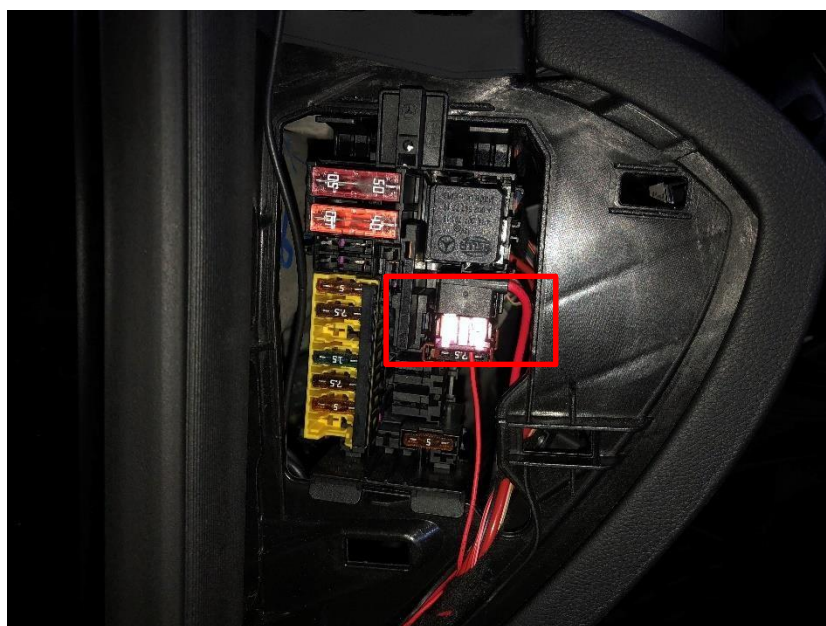

Fig. 14
1. Install the power cord of the host to the fuse box beside the instrument panel. (Fig.14)